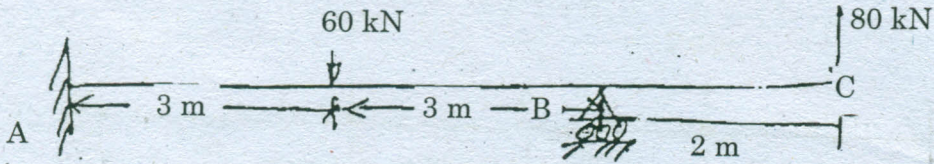

Fig. 14 (a)
14. (a) Analyse the beam loaded as shown in Fig. 14 (a) by the slope deflection method and draw the bending moment diagram and shear force diagram. EI is constant. (16)